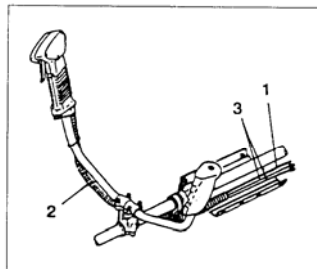

Fig. 1-3B
Put stop cords (3) and throttle wire (1) through protective tube (2), then unhook the hip pad. (Fig. 1-3B)